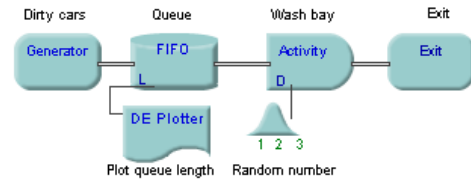

Figure 4: Discrete Event Plotter Added to Model
A Discrete Event Plotter graphically displays model metrics (values). In this example (Figure 4), the Plotter will graph the contents of the Queue (the number of dirty cars waiting in line) over time. Here the length connector (L) on the Queue FIFO is connected to an input on the Plotter.